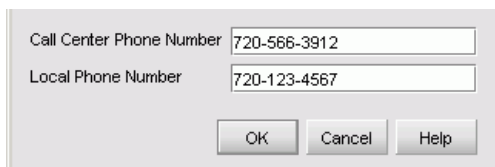

Figure 2-31 Call Home Configuration Dialog Box
2. At the Windows 2000 desktop, double-click the *Call-Home Configuration* icon. The *Call Home Configuration* dialog box displays (Figure 2-31).